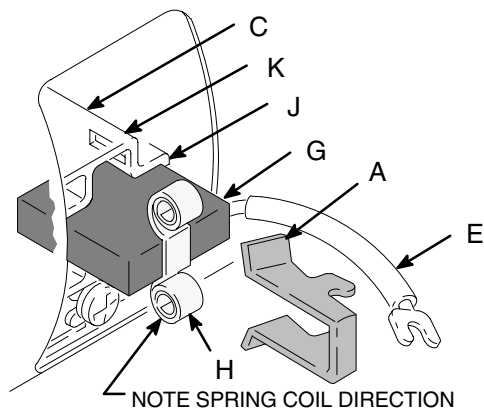

Fig. 9
7. Fig. 9. Install new brush (G) with lead (J) of brush holder (C).
9. Fig. 9. Place spring (H) on brush (G).
10. Fig. 9. Install spring clip (A). Push down to hook short slots (K) in brush holder (C).